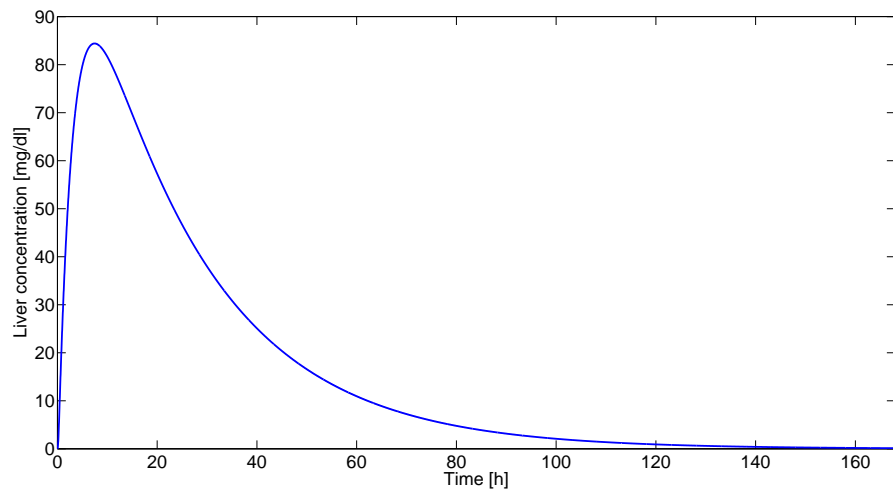

Figure 5.1 Liver concentration at 500 mg dose
- c. Simulating the system with this oral prescription produces the curve in Fig. 5.1 below. See code in the end of the solution to this exercise.